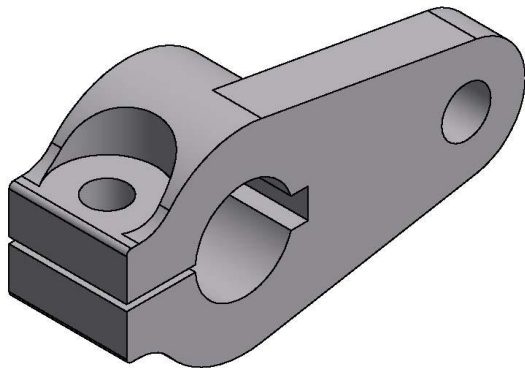
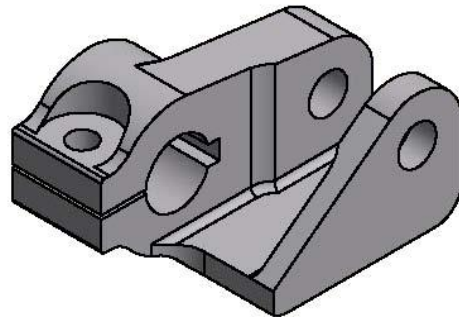
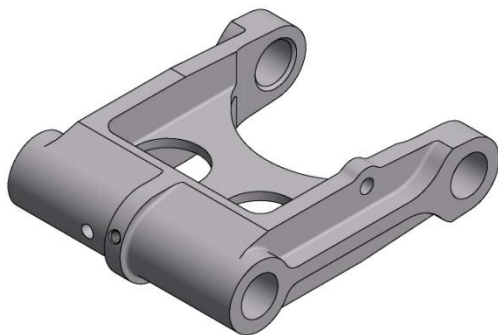

Figure 2.1
Figure 2.2
Figure 3.1
3. Removal and replacement of UPPER SHOCK ARM, MAIN GEAR (1004289 Rev B (see figure 2.1)) with UPPER SHOCK ARM, MAIN GEAR (1004289 Rev C (see figure 2.2))
4. Removal and replacement of ACTUATOR, ARM, MAIN GEAR (1005280 Rev A (see figure 3.1)) with ACTUATOR, ARM, MAIN GEAR (1005280 Rev B (see figure 3.2))
4. Replace 1005280 (Rev A)(Figure 2.1) with 1005280 (Rev B)(Figure 2.2), and 1004278 (Rev B)(Figure 3.1) with 1004278 (Rev C)(Figure 3.2). See Figure 4.